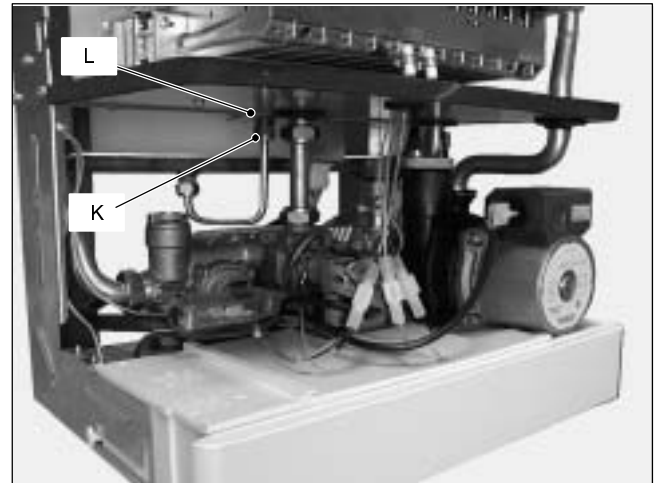

Fig. 54
- 2 Completely unscrew the connection K, the lock-nut L (Fig. 54) and remove the expansion vessel from the top of the boiler.